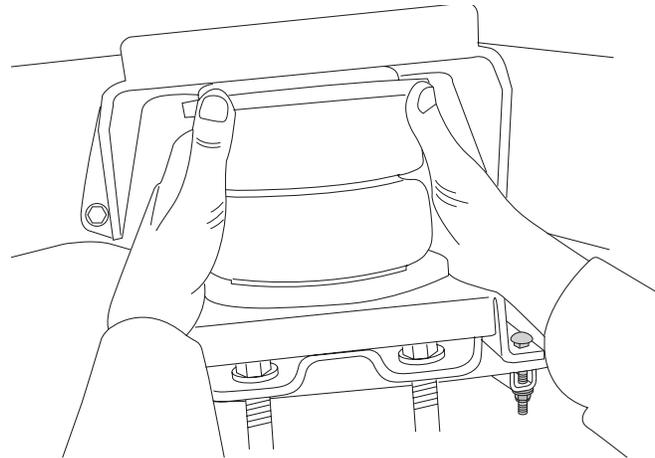

Fig. 9
1. With the air spring hardware still loose, align the air spring inboard and outboard using the slotted holes for adjustment so that it is uniformly positioned between the brackets (Fig. 9).